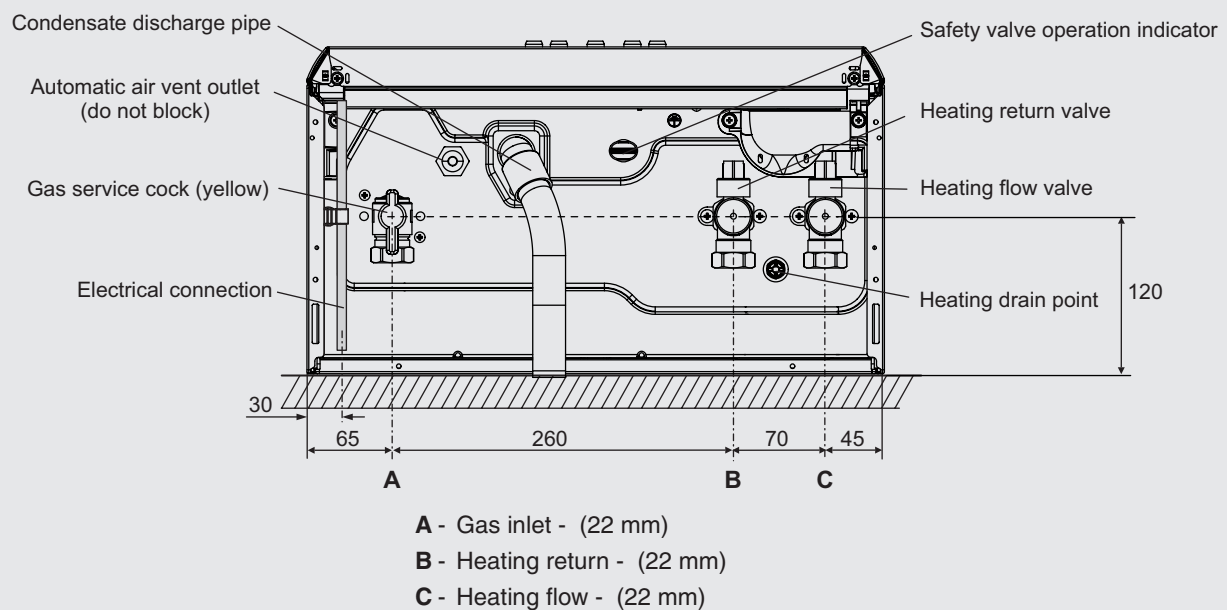

Fig. 5.4
5.5 CONNECT THE PIPEWORK - Fig. 5.4
2. Fit the valves to the boiler connections as shown in Fig. 5.4, using the gaskets supplied.
4. Connect the flexible condensate pipe to the rubber connector as shown in Fig. 5.4. Using the adaptor supplied, connect the flexible pipe to the condensate drain. Ensure that the condensate discharge pipe is as required in Section 4.9.